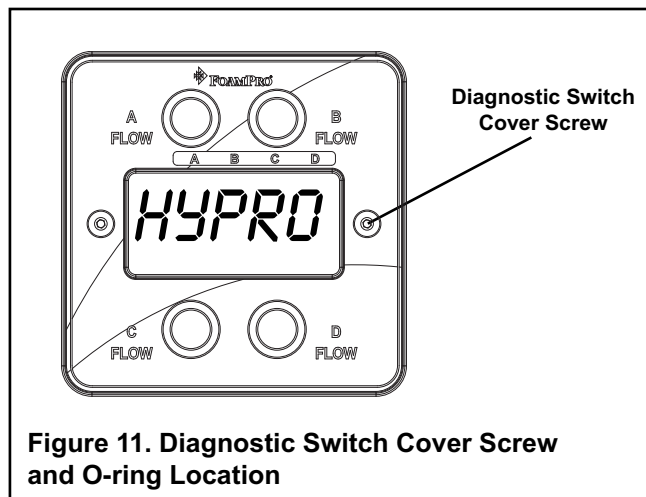

Figure 11. Diagnostic Switch Cover Screw and O-ring Location
1. Diagnostic mode is entered by removing the screw and o-ring on the right-hand side of the MultiFlo Control Module (see Figure 11) using a 3/32" allen wrench.